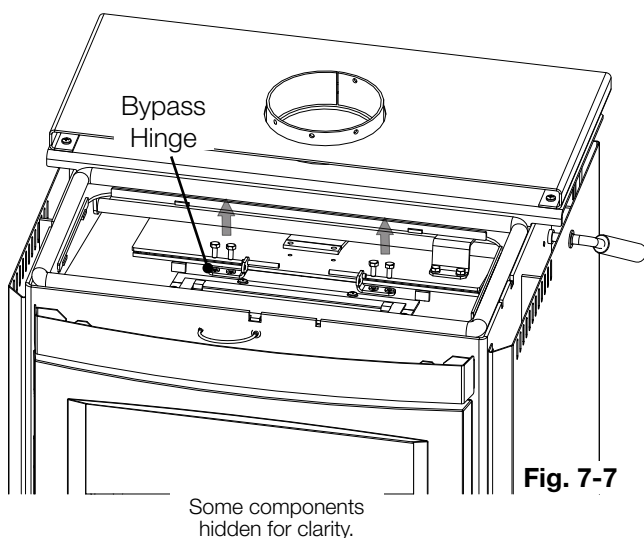

Fig. 7-7
3. Remove the bypass hinges by removing the 4 screws (2 per side) (**Fig. 7-7**), remove the bypass rod guide by removing the 2 screws (**Fig. 7-8**), then remove the bypass door.